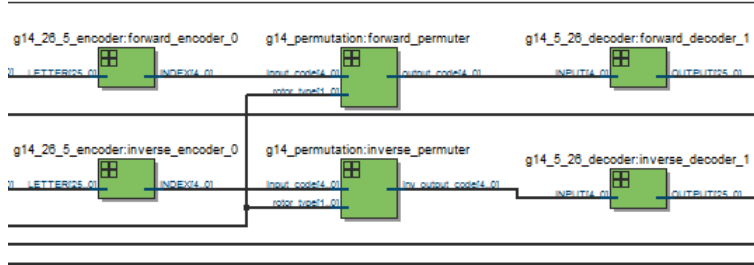

Figure 11: The third layer of components of the rotor.
5. The signal is now sent to the forward_permuter, which based on the rotor type for this particular rotor, maps each possible 5 bit input to a 5 bit output (both in the range of $[0,25]$). This can be seen in figure 11.
6. From the permuter the scrambled value is decoded once more, at the forward_decoder_1 (as seen in figure 11).